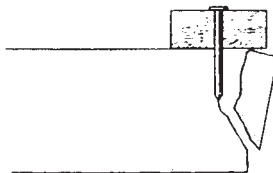

Figure 21.68
**Flying particles** are the major hazard. On impact, materials may break up, blow apart, or spall off. This often happens when fasteners are fired too close to a corner of masonry or concrete (Figure 21.68) or when they strike materials such as glazed tile, hollow tile, or thin marble tile.